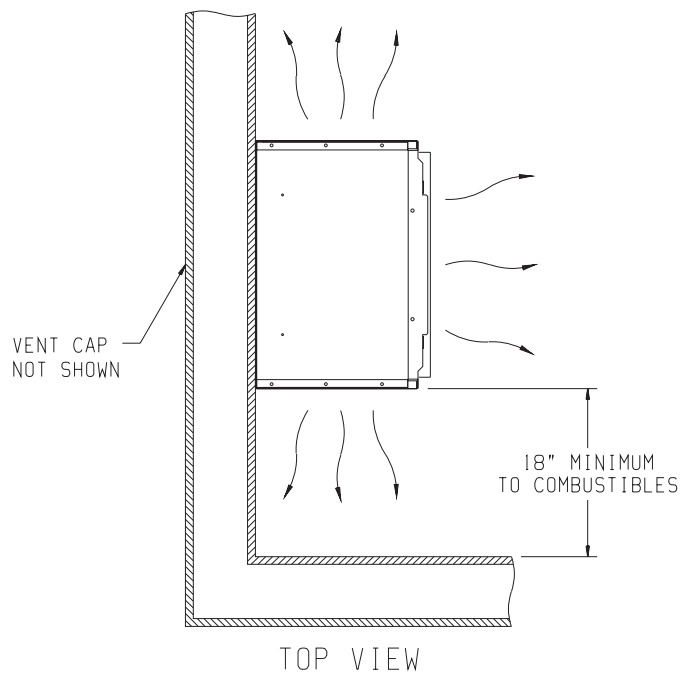

Figure 4
Side outlet register, SOR-1 may be installed on one or both sides of the furnace at the required clearances of 18 inches to adjacent wall or combustible material as shown in **Figure 4**.
Refer to **Figure 4** for the location of the 7-1/2" diameter wall opening for the furnace. After the wall opening has been located and cut, position flue outlet on furnace in center of wall opening. When attaching furnace to the wall remove that portion of baseboard and molding on the wall which is behind the furnace. Attach furnace to wall, at the outer casing top, with (2) toggle bolts provided and to floor, at the outer casing bottom, with (2) #10 x 1-1/2" screws provided.